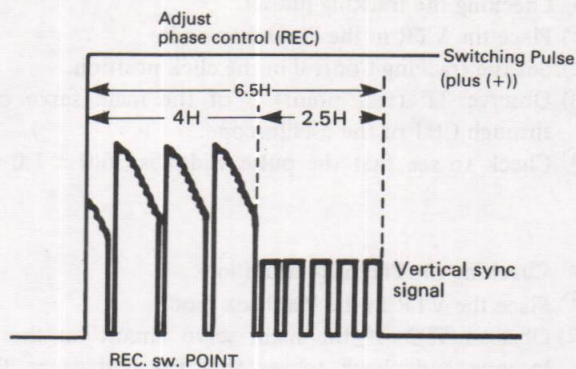

Figure 57
- ① Place the VTR in the REC mode.
- ② Observe TP203 through the oscilloscope. If the switching pulse is triggered externally, observe the switching pulse at CC connector ① Pin.
- ③ Using the positive slope of the vertical sync signal through the oscilloscope, properly adjust the REC VR (within the hybrid IC (I704)) so that the output waveform is as shown in Fig. 57.